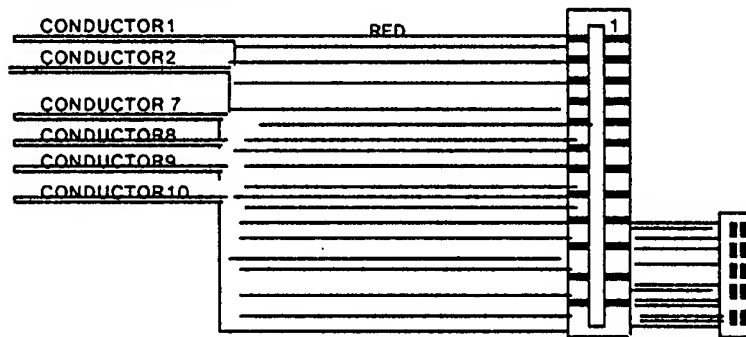

FIG. 4
7.0 ADD WIRE (OBSERVE FIGURE 4)